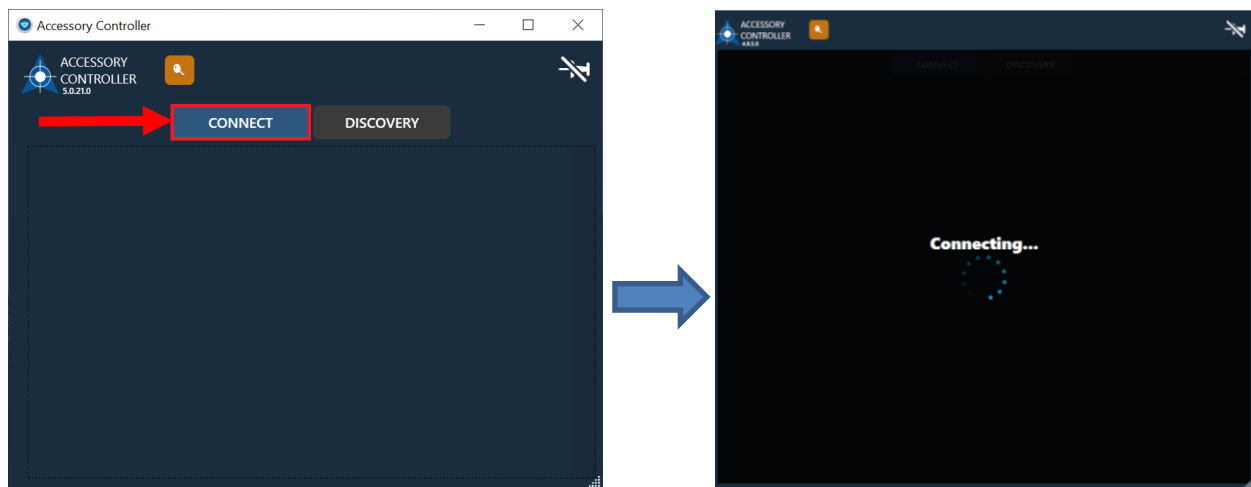

Fig. 5
- b. Click “CONNECT” to start Accessory Control as shown below (Fig. 5).